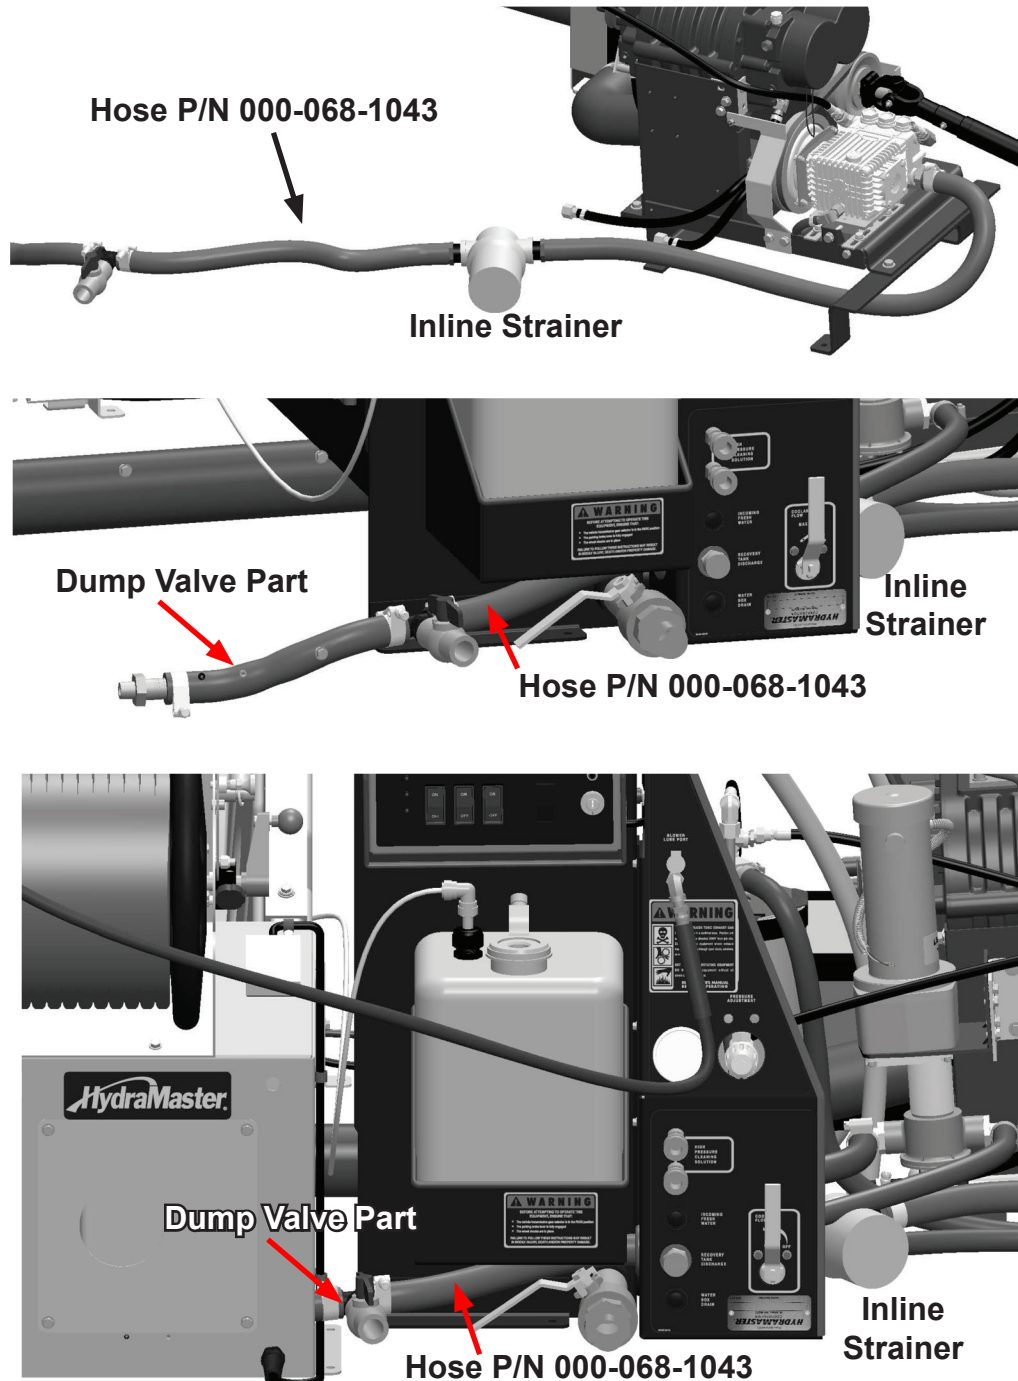
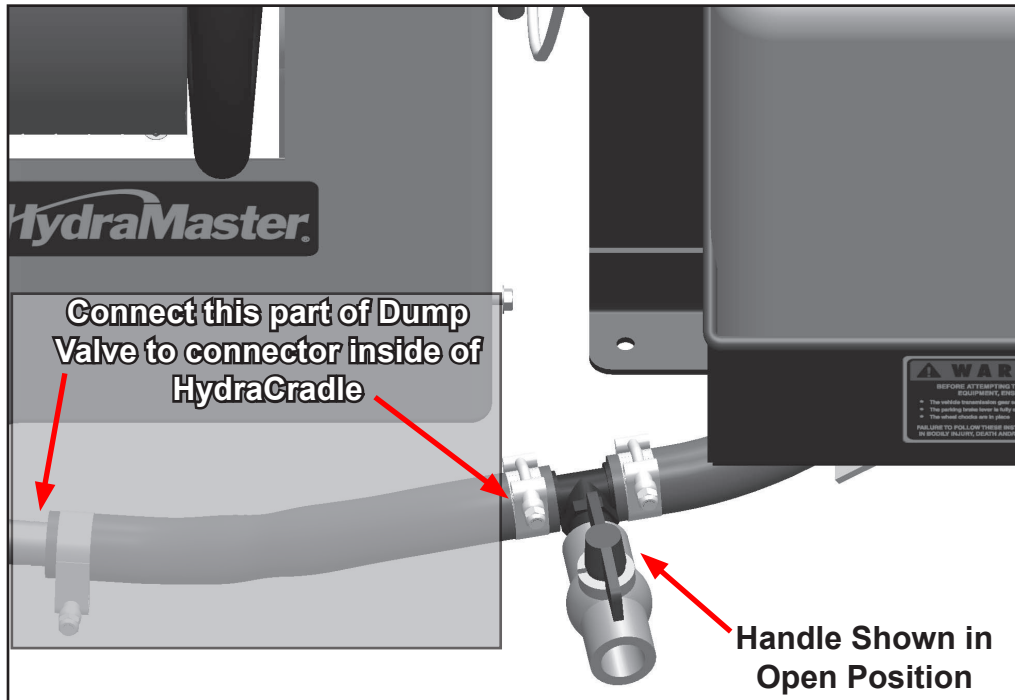

Figure 61. Route and Connect Hose and Dump Valve
Figure 62. Install Dump Valve Part
1. Route the suction hose (P/N 000-068-1043) from the Inline Strainer through the CDS as indicated in Figure 61
2. Connect and secure one end of the Dump Valve to the suction hose with hose clamps (see Figure 61 and Figure 62)
The dump valve must be closed prior to starting the CDS/EWS or the high pressure pump may be damaged (see Figure 62).